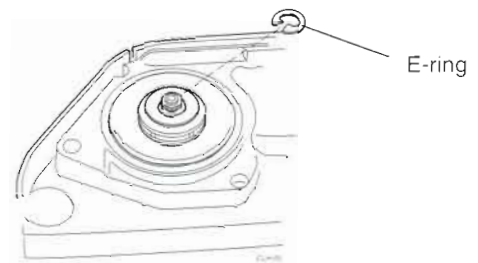

Figure 6.10 Removing the E-ring
STEP 4. Remove the E-ring from behind the crankshaft nut. (Figure 6.10)